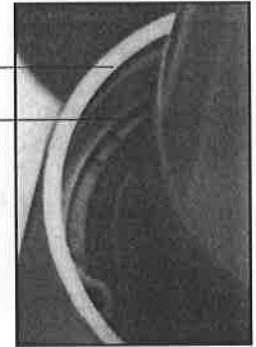

Fig. 20
3. Install the 35mm circlip into the slider. Make sure the circlip is in the deep groove several millimeters inside the slider and not only under the wiper attachment lip (Fig. 20).